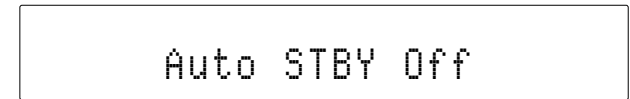

Figure 44
1. Using the MCD350 Remote Control, press and hold in the ⏻ (Power) Push-button for about 5-10 seconds, at which time the Front Panel Display indicates "Auto STBY Off". Refer to figure 44.